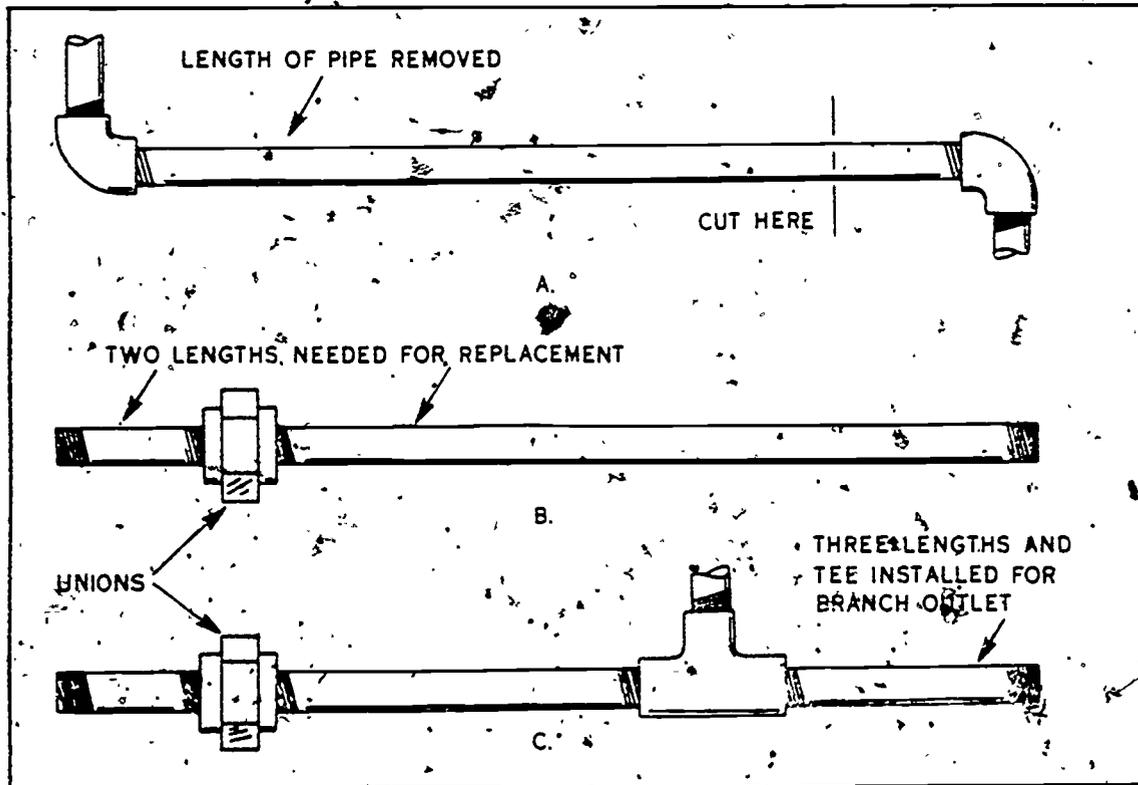

Figure 6-7 Replacing pipe
fitting gives you working room to thread this short length and use it when you reassemble the pipe. The new section is made up of two lengths of pipe, one of which may be part of the old pipe and a union, which, when assembled, should equal the length of the old pipe, as shown in figure 6-7, B. A single length of pipe can be installed only when the old length of pipe is disconnected at a union. A similar procedure is followed when a branch line is cut into an existing line, except that a T-fitting is required between two new lengths, as illustrated in figure 6-7, C. This assembly must also be equal to the original length of pipe that was removed.
**Permanent pipe repairs.** Permanent pipe repairs should be made with pipes and fittings that are the same size and quality as the original installation. To make a permanent pipe repair, disconnect the pipe line at a convenient point, such as a union, and remove the damaged pipe. If there is no union, remove the damaged section of pipe by cutting it with a hacksaw or a regular pipe cutter. Cut the pipe at least 4 inches from a fitting, as shown in figure 6-7, A; then unscrew the ends.
**Exercises (458):**